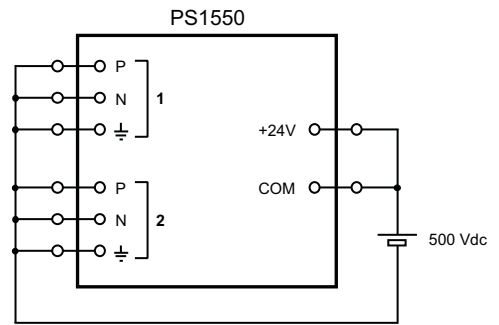

Fig. 12. Isolation Testing Output-Ground.
6. Isolation Output-Ground is carried out as per diagram in Fig. 12: applied voltage must be continuous at maximum value 500 Vdc.